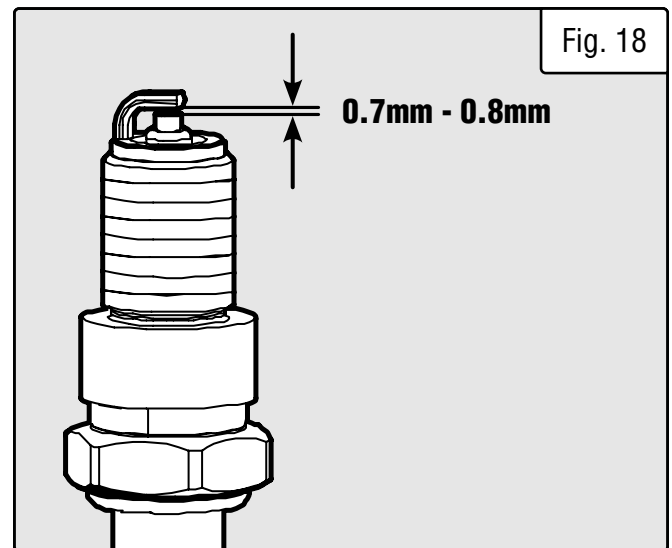

Fig. 18
5. Measure the plug gap with a spark plug gap gauge. The gap should be **0.7 to 0.8 mm (0.028-0.031 in.)** (Fig. 18). Carefully adjust the gap if necessary.